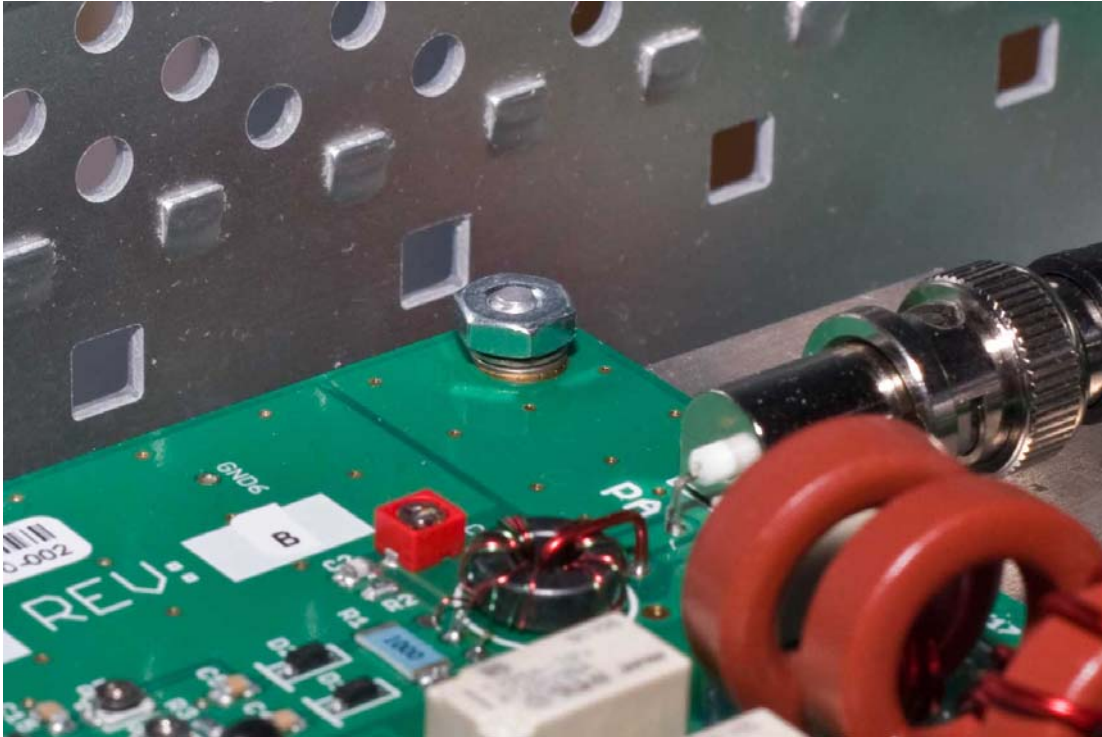

Figure 6 - Flat washer, internal tooth lock washer, and hex nut securing the ATU
Step 12. Install one (1) flat washer, one (1) internal tooth lock washer, and one (1) hex nut over each of the four (4) screws upon which the ATU is mounted. Hand tighten the nuts, but be careful not to strip the threads. (See Figure 6)